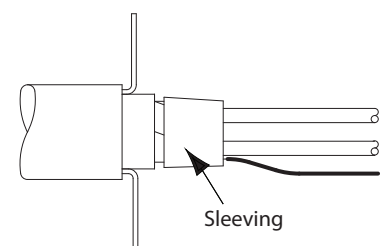

Fig. 6
- 3.5 To insulate the foil ends a suitable piece of 10mm long shrink tubing or neoprene stretch tubing or a 10mm wide lap of PVC tape may be used (Fig. 6).